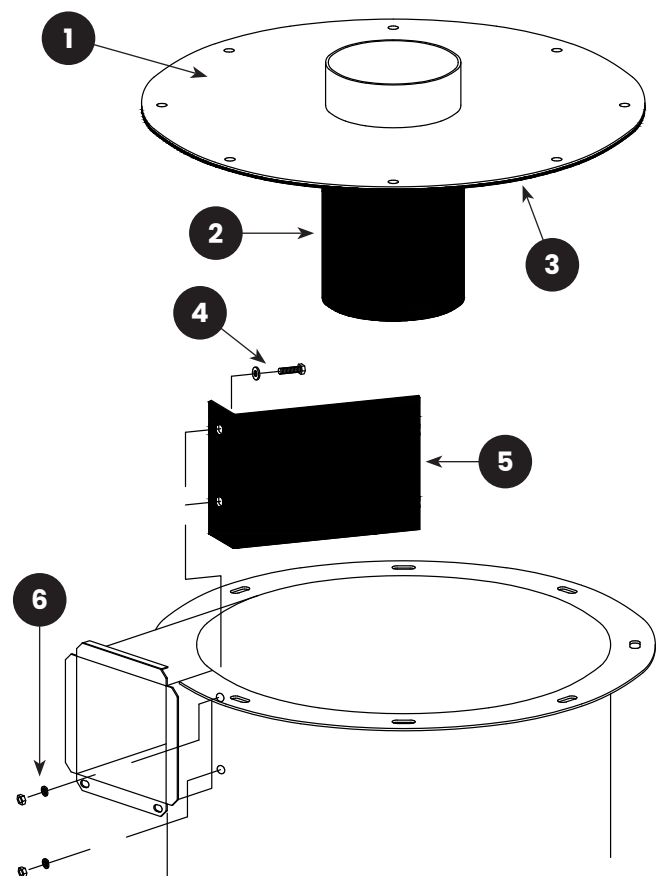

FIGURE 8: (1) Reclaimer Top; (2) Cylinder Liner; (3) Top Liner; (4) Baffle Bolts and Flat Washers; (5) Lined Baffle; (6) Baffle Nuts and Lock Washers
7.4.7 | Remove the bolts and nuts, securing the reclaimer top, and then remove the top (and top liner and cylinder liner if the reclaimer is currently lined), as shown in **Figure 8**.
7.4.10 | Remove the nuts and washers located along the right side of the inlet and remove the lined baffle through the top of the reclaimer, as shown in **Figure 8**.